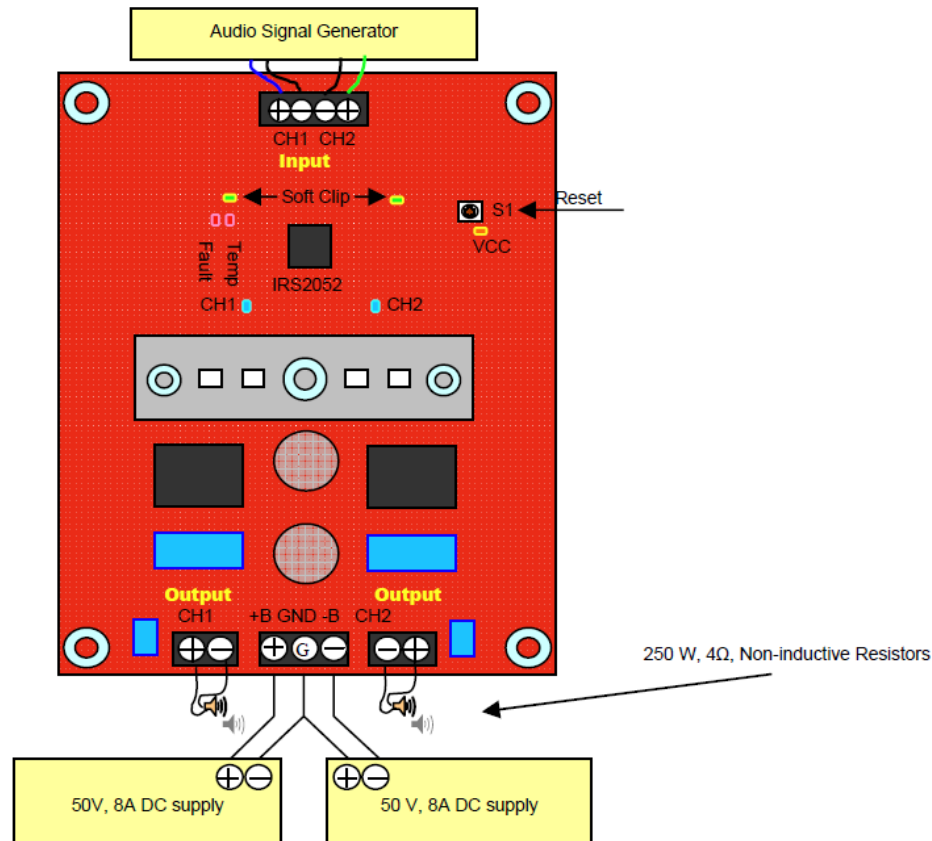

Fig 1 Typical Test Setup
1. Connect 4 Ω -200 W dummy loads to 2 output connectors (P2 and P3 as shown on Fig 1) and an Audio Precision analyzer (AP).
2. Connect the Audio Signal Generator to CN1 for CH1~CH2 respectively (AP).
5. Connect the dual power supply to P1. as shown on Fig 1